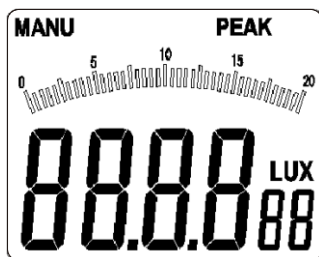

Figure 3-1-2B
- Press and hold “REL/PEAK” key for one second, the device will enter the peak value measurement mode, “PEAK” LCD will appear on the top right position of the LCD interface, and at the same time, “MENU” will appear on the top left position of the LCD interface (as shown in figure 3-1-2B);